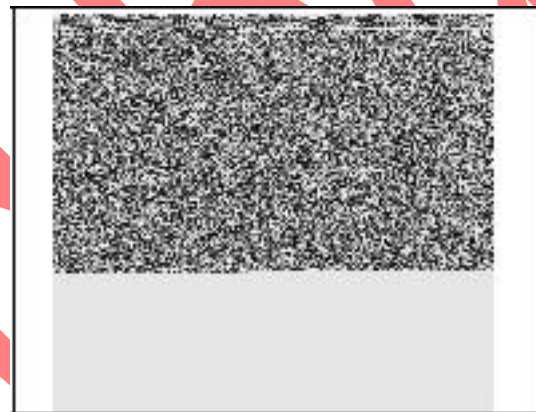

Fig. 145
Install idle mixture screw (O) with spring and the idle speed screw (P) Fig. 145) with spring.